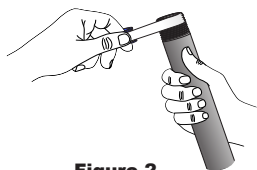

Figure 2
3. Wrap the threaded end of suction pipe with three or four turns of thread tape (see Figure 2). Thread the suction pipe into the bottom of the adapter and hand tighten until snug.